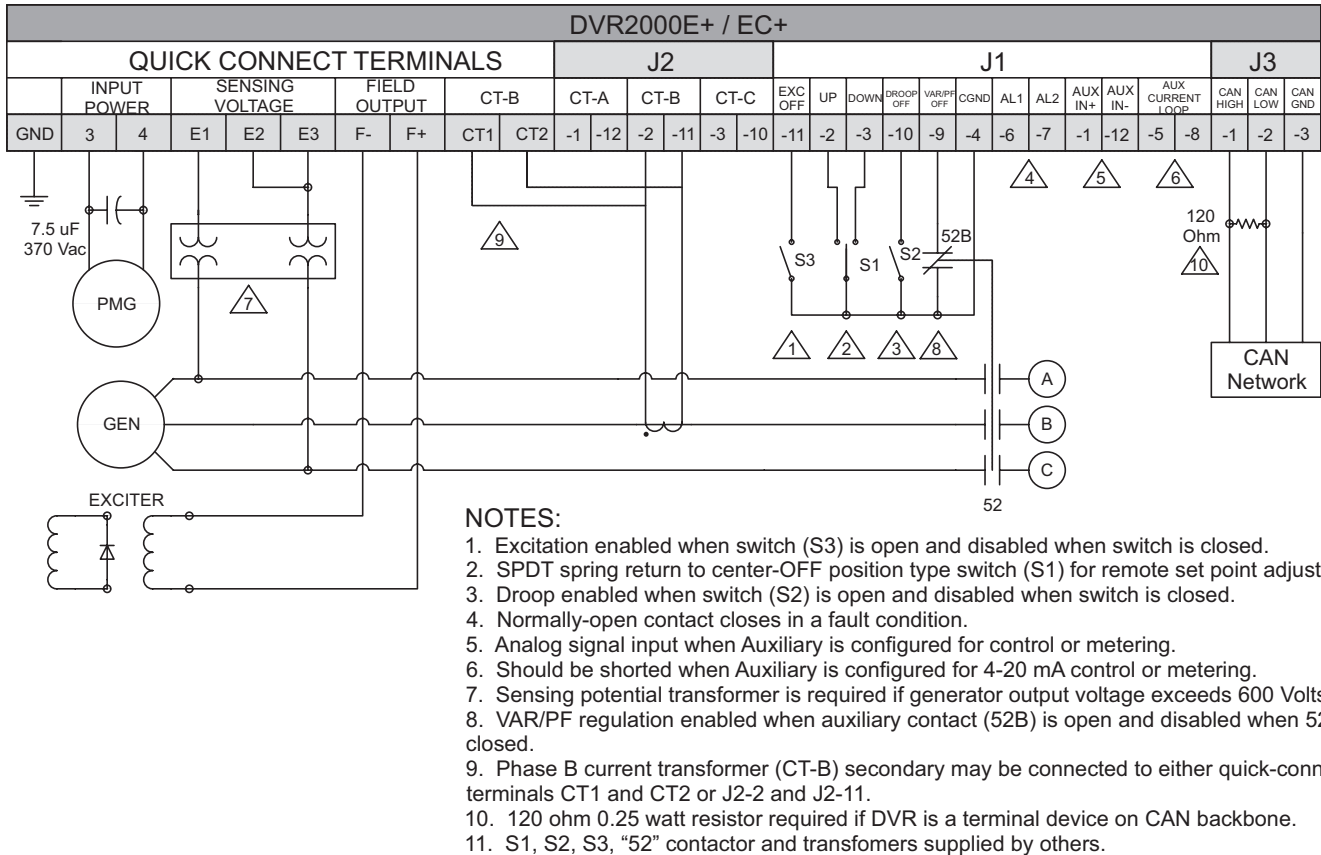

Figure 5-10. Typical Connections with ABC Rotation, Single-Phase Voltage Sensing and Single-Phase Current Sensing
- Figure 5-10 shows an application where the regulator is connected for with single-phase voltage sensing and single-phase current sensing.